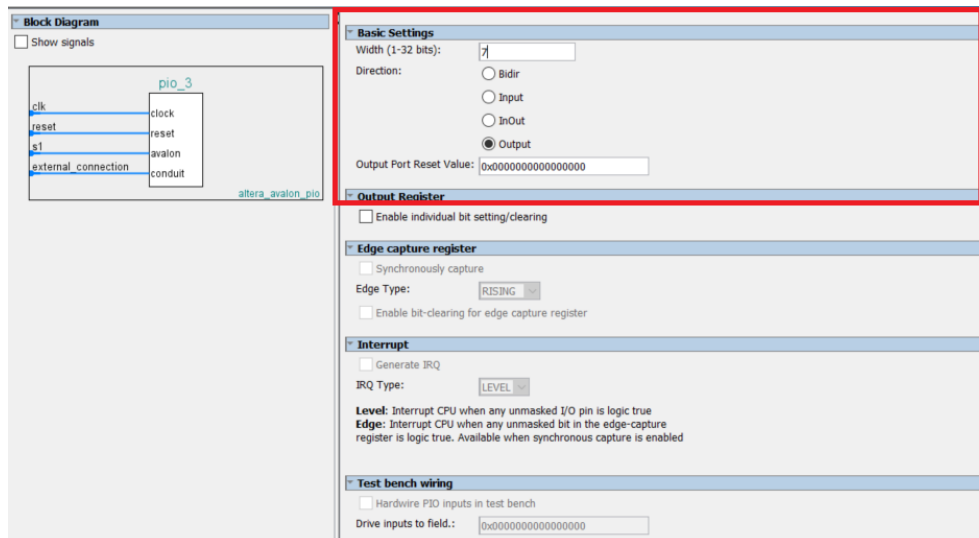

Figure 18: Parallel IO Configuration Panel for Seven-Segment Display Outputs
- ❑ When you have setup your seven segment display output component interface as in Figure 18, click **Finish**.